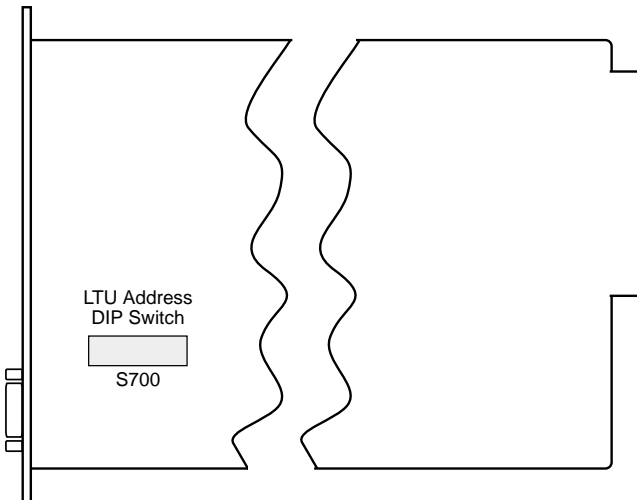

Figure 2. Location of LTU Address DIP Switch S700
The location of the DIP switch used to set LTU addresses is shown in Figure 2. The LTU address DIP switch settings are listed in Table 4 on page 9.
- 8 To prevent unauthorized configuration changes, remove the HDSL card from the shelf and set position 7 of DIP switch S700 to “ON.” See Figure 2 on page 8 for the location of DIP switch S700. See also footnote (b) of Table 4 on page 9.